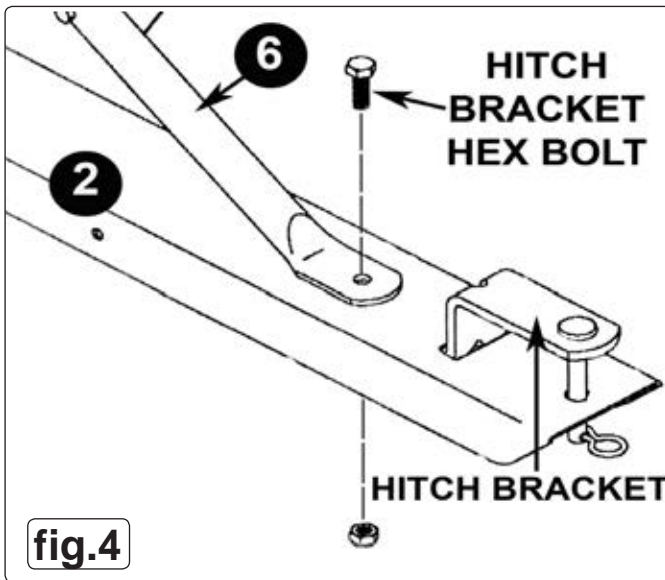

fig.4
- 4.7. Remove the hex bolt and nut securing the hitch bracket to the hitch tongue (2). Align the loose end of the flow control handle over the hole and attach to the hitch tongue (2) using the hitch bracket hex bolt and lock nut as shown in figure 4.